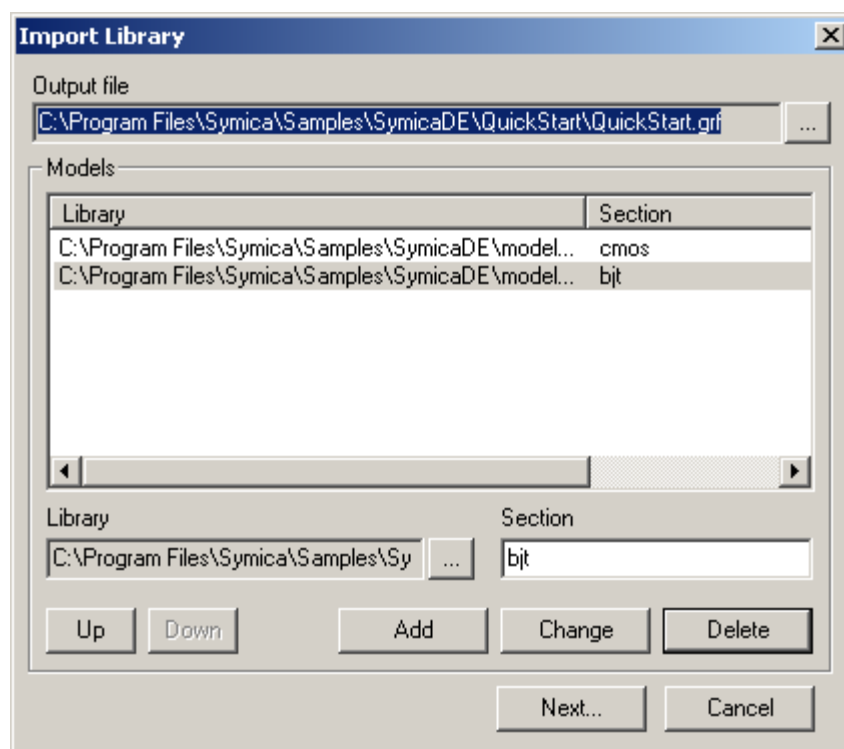

Fig. 1.
1. Select *File->Import->Library...* to open Import Library menu window (fig. 1):